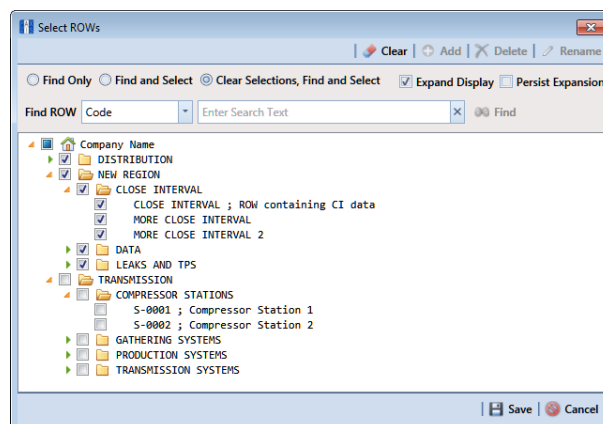

Figure 10-62. Select ROWs
- 1 Select one or more pipeline segments in the *Select ROWs* window (Figure 10-62). Select pipeline segment(s) with facilities you want to include in the Bridge definition. Click  **Save** to close the window.